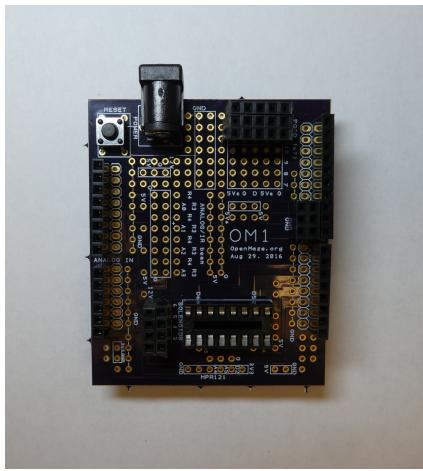

Figure 1: Top view of the finished board
**Figure 1:** Scaled down version of all the electrical connections within the OM1 Shield. Red and blue lines are used just to differentiate connections. They do not carry any meaning.